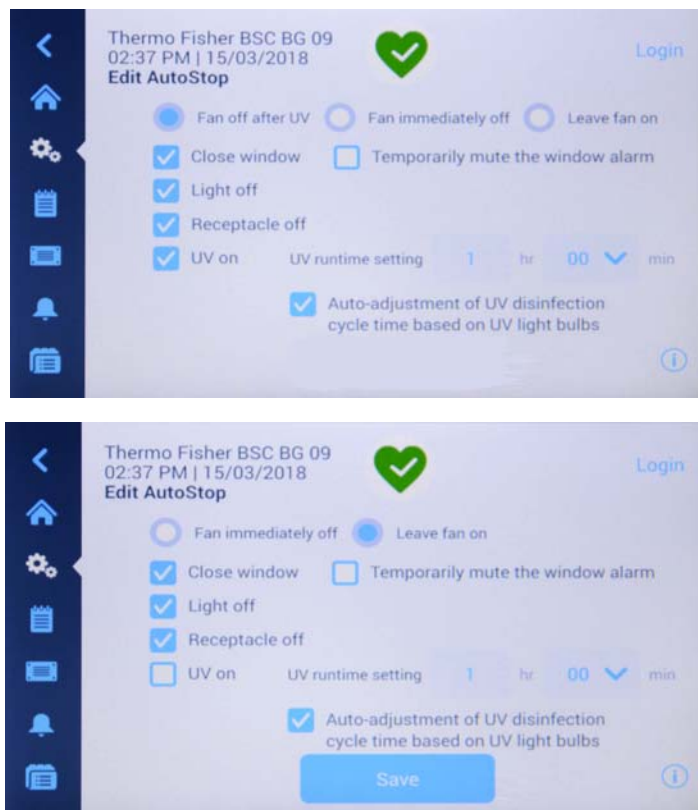

Figure 79 Programs: Edit AutoStop Screen
Doing so will open up the Edit AutoStop screen shown in Figure 79 below. By default, the **Edit AutoStop** screen comes up with the *Fan off after UV* option selected, the Temporarily mute the window alarm checkbox deselected, and all remaining checkboxes selected (top image in Figure 79).
5. When you are done choosing AutoStop options, tap the Save button (bottom image in Figure 79).